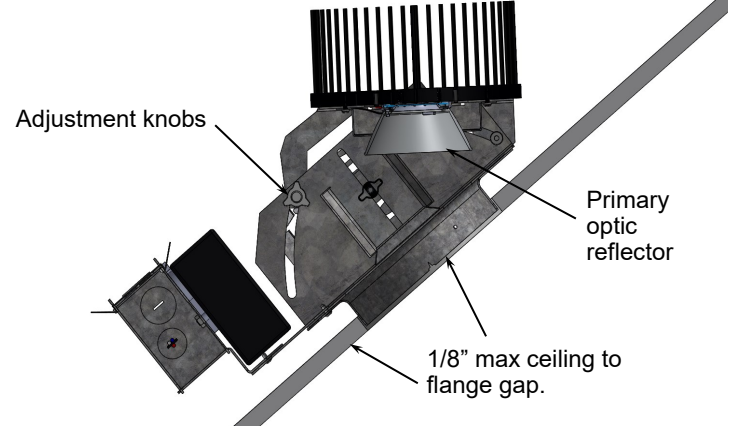

Figure 2
For Proper Adjustability of lamp, the fixture MUST be positioned only as shown in Figure 2.
3. Loosen the bracket wing nuts from the inside of the fixture, and adjust the *hanger bar end brackets*, so that the lower lip of the fixture flange will be **flush, or 1/8" (max)** above the bottom of the ceiling surface. (See **Figure 2**).
To adjust lamp position, loosen the two adjustment knobs and slide assembly to the desired angle or until the bottom of the primary optic reflector is parallel with the floor. Maximum tilt angle is 45°. (See Figure 2)